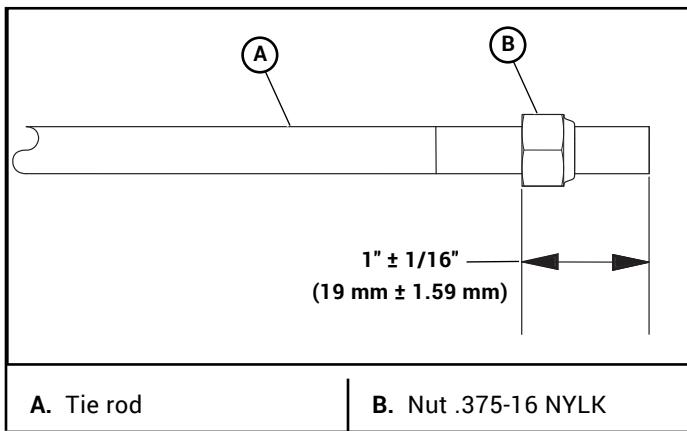
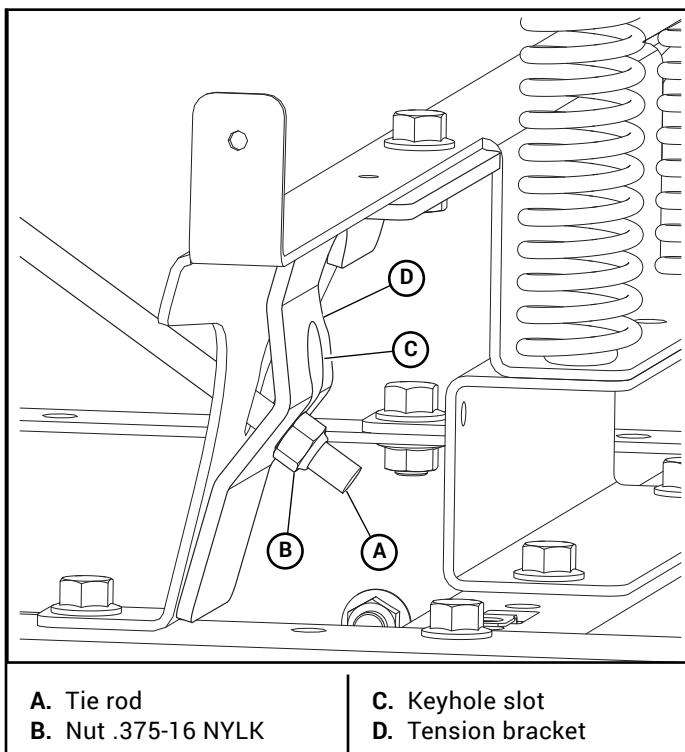

Figure 3-17
Figure 3-18
24. Thread a .375-16 nylon locking nut onto each of the tie rods to the dimension shown in Figure 3-6 & Figure 3-17.
25. Insert one tie rod through the key hole slot in the fender support bracket and the keyhole slot in the tension bracket. Figure 3-6 View B, Figure 3-17, & Figure 3-18